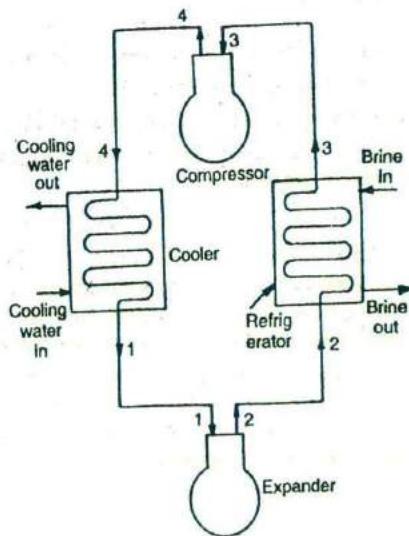

Fig. 35.5. Closed cycle or dense air Bell-Coleman refrigerator.
3. We have already discussed that the main drawback of the open cycle air refrigerator is freezing of the moisture in the air during expansion stroke which is liable to choke up the valves. Due to this reason, a closed cycle or dense air Bell-Coleman refrigerator, as shown in Fig. 35.5, is preferred. In this case, the cold air does not come in direct contact of the refrigerator. The cold air is passed through the pipes and it is used for absorbing heat from the brine and this cooled brine is circulated into the refrigerated space. The term dense air system, is derived from the fact that the suction to the compressor is at higher pressure than the open cycle system (which is atmospheric).